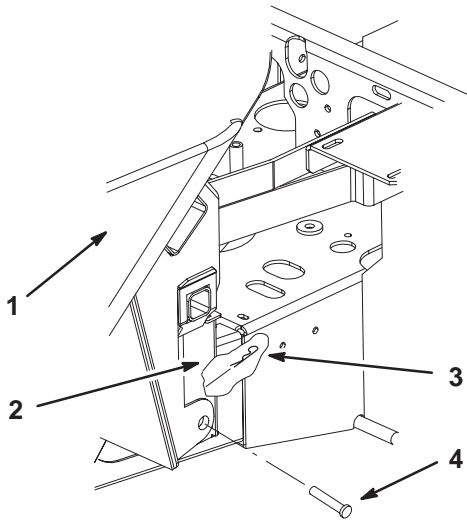

Figure 15
3. Install the bagger onto the bagger mounting bracket (Fig. 15).
4. Install clevis pins into the bagger and bagger mounting bracket. Secure with hairpin cotter pins (Fig. 15).